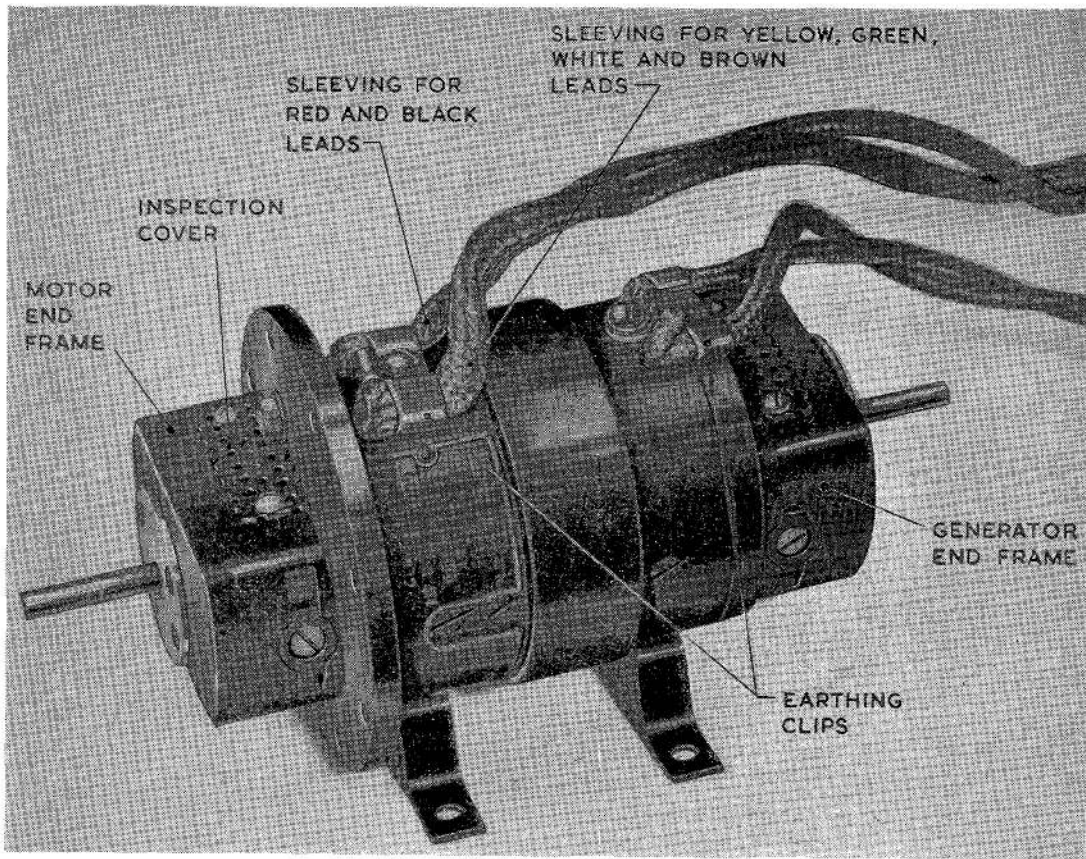

Fig. 1. Rotary transformer, Type 88X
1. The rotary transformer, Type 88X (fig. 1) is used in conjunction with automatic computing devices. With an input of 15 volts d.c. and at a speed of 6,000 r.p.m., it will deliver an output of 38 volts d.c. \pm 10 per cent; the voltage output is directly proportional to the speed within 2 per cent.